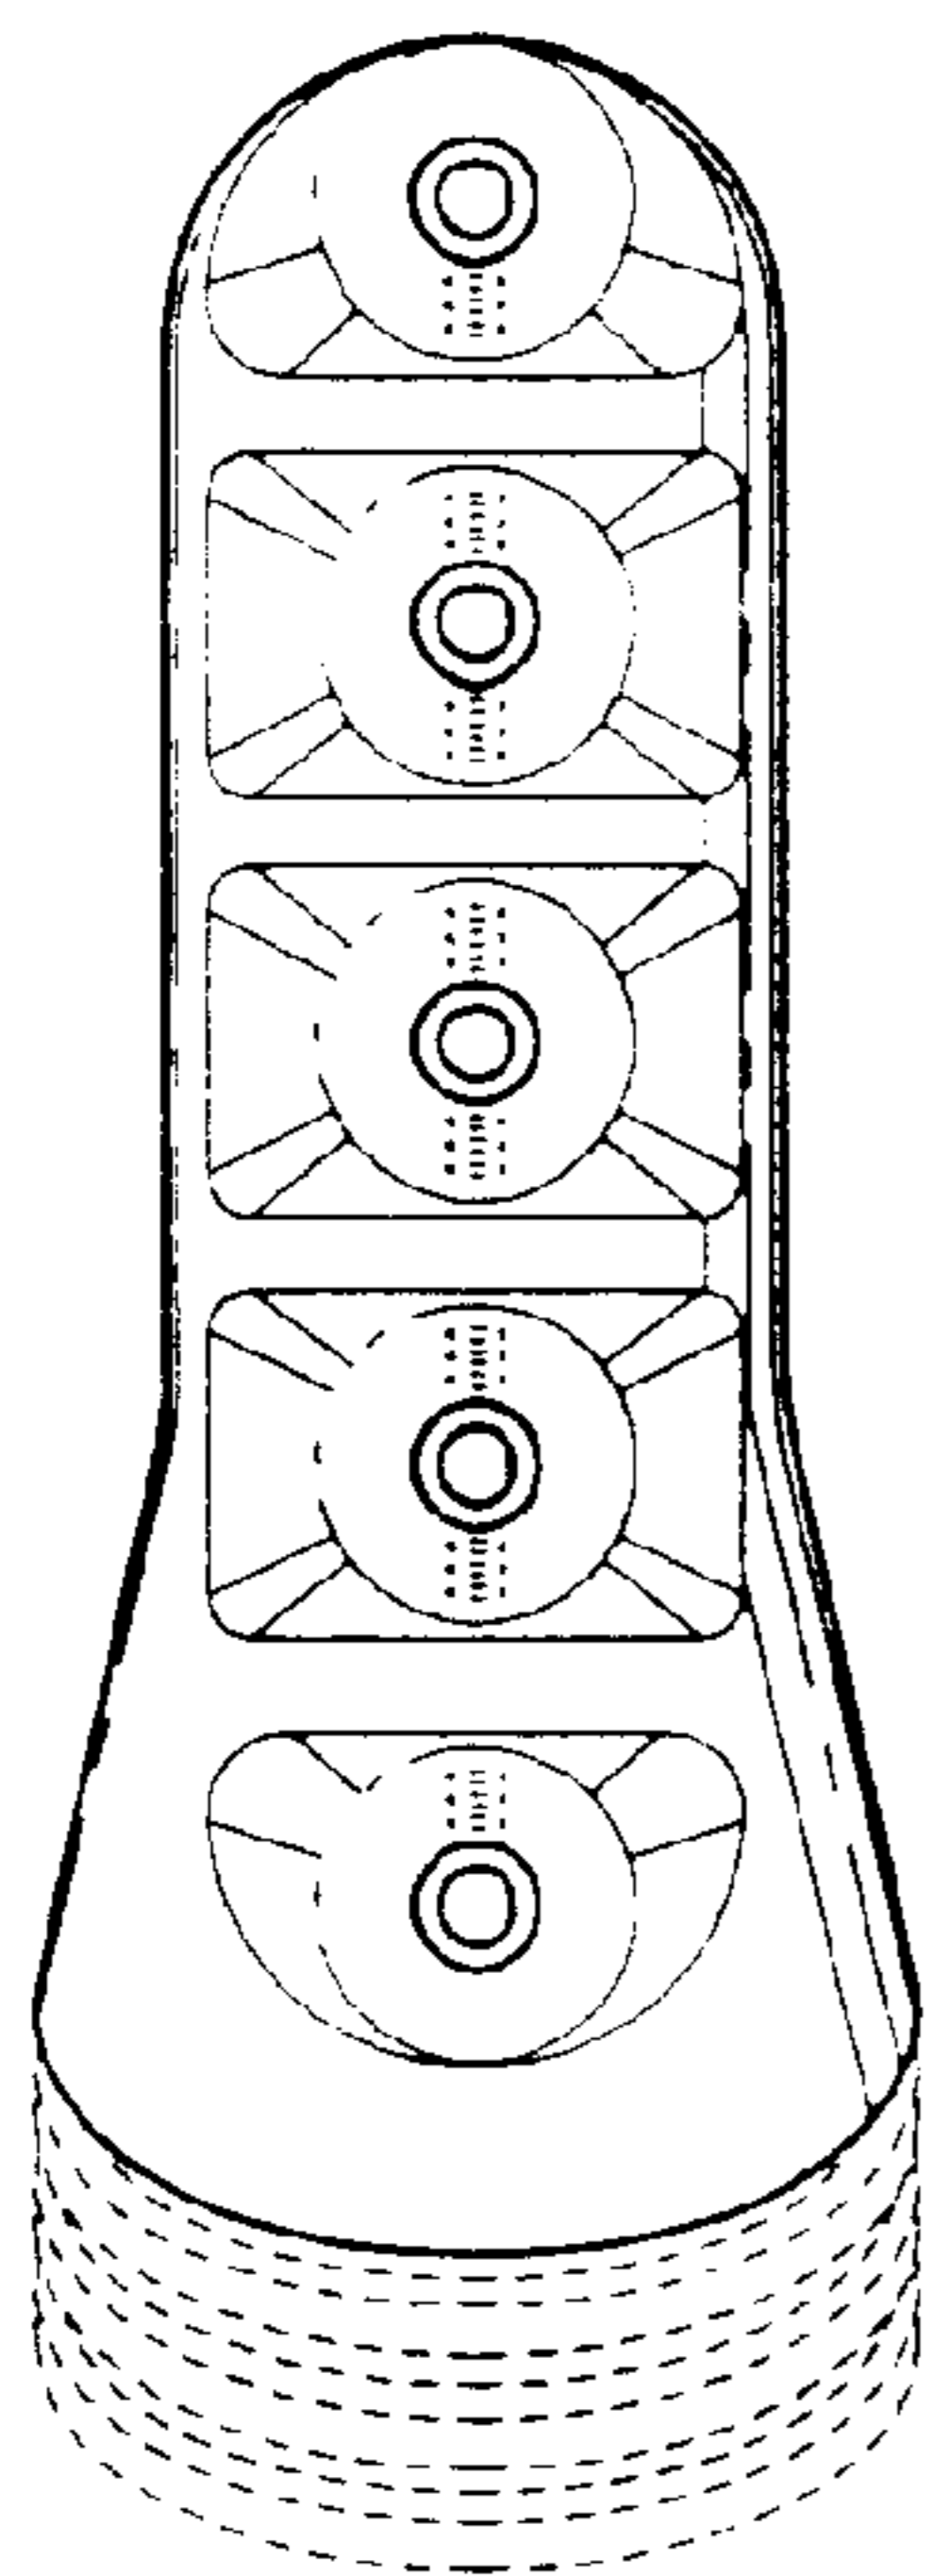

FIG. 11
- FIG. 11 is a front elevational view thereof;